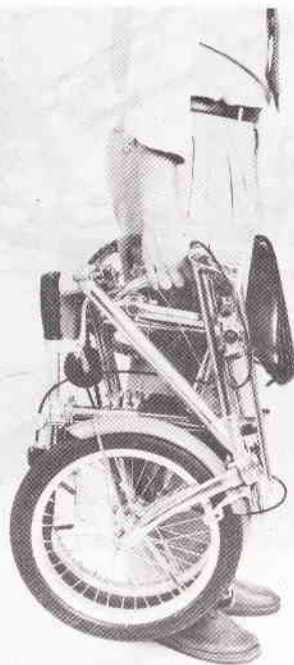

Fig. 4
- 2) In some areas where DAHON Folder cannot be pushed, it can be easily carried by hand. By completely folding the bike and raising it to a standing position, you can grasp the carrying bar with either hand and easily carry the bike with you anywhere (Fig. 4).